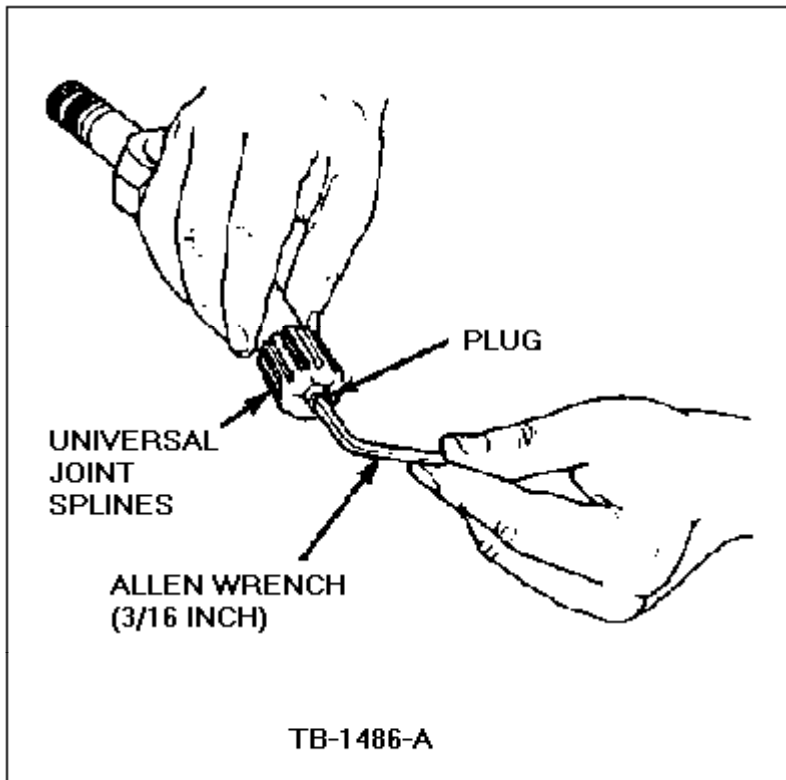

Figure 19 - Article 90-5-10
22. Remove the plug from the splined end of the universal joint column, Figure 19. A 3/16 inch Allen wrench is required.